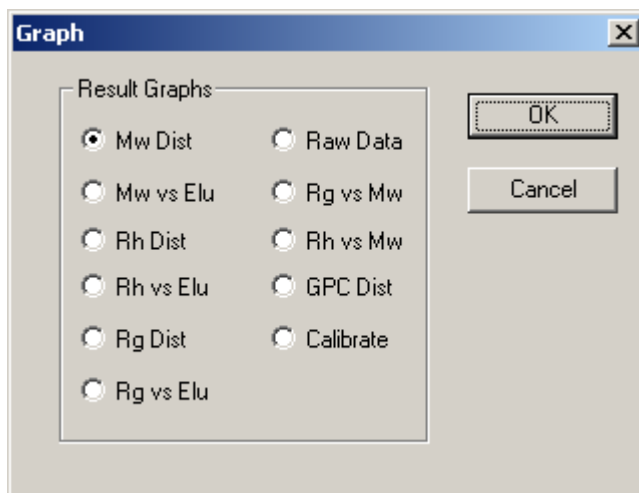

Figure 9-5: The Graph Dialog Box
- c) Click inside the rectangle to access the *Graph* dialog box (Figure 9-5), and select the graph to be displayed.